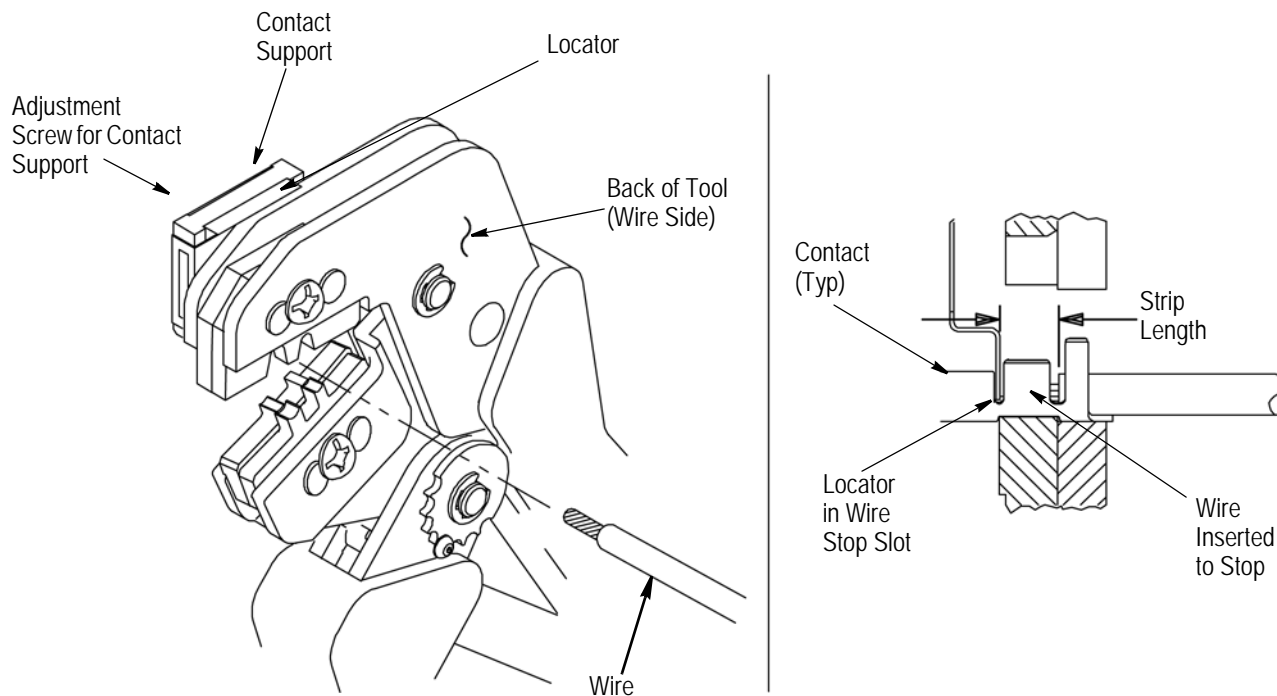

Figure 3
4. CONTACT SUPPORT ADJUSTMENT (Figure 3)
Refer to the table in Figure 1 and select wire of the specified size and insulation diameter. Strip the wire to the length indicated in Figure 1, taking care not to nick or cut wire strands. Select an applicable contact and identify the appropriate crimp section according to the wire size markings on the tool. Refer to Figure 3 and proceed as follows:
3. Position the contact so that the mating end of the contact is on the locator side of the tool, and so that the open "U" of the wire and insulation barrels face the top of the tool. Place the contact up into the nest so that the movable locator drops into the slot in the contact. Refer to Figure 3. Butt the front end of the wire barrel against the movable locator.
5. Insert stripped wire into contact insulation and wire barrels until it is butted against the wire stop, as shown in Figure 3.
The crimped contact may stick in the crimping area, but the contact can be easily removed by pushing downward on the top of the locator (see Figure 3).